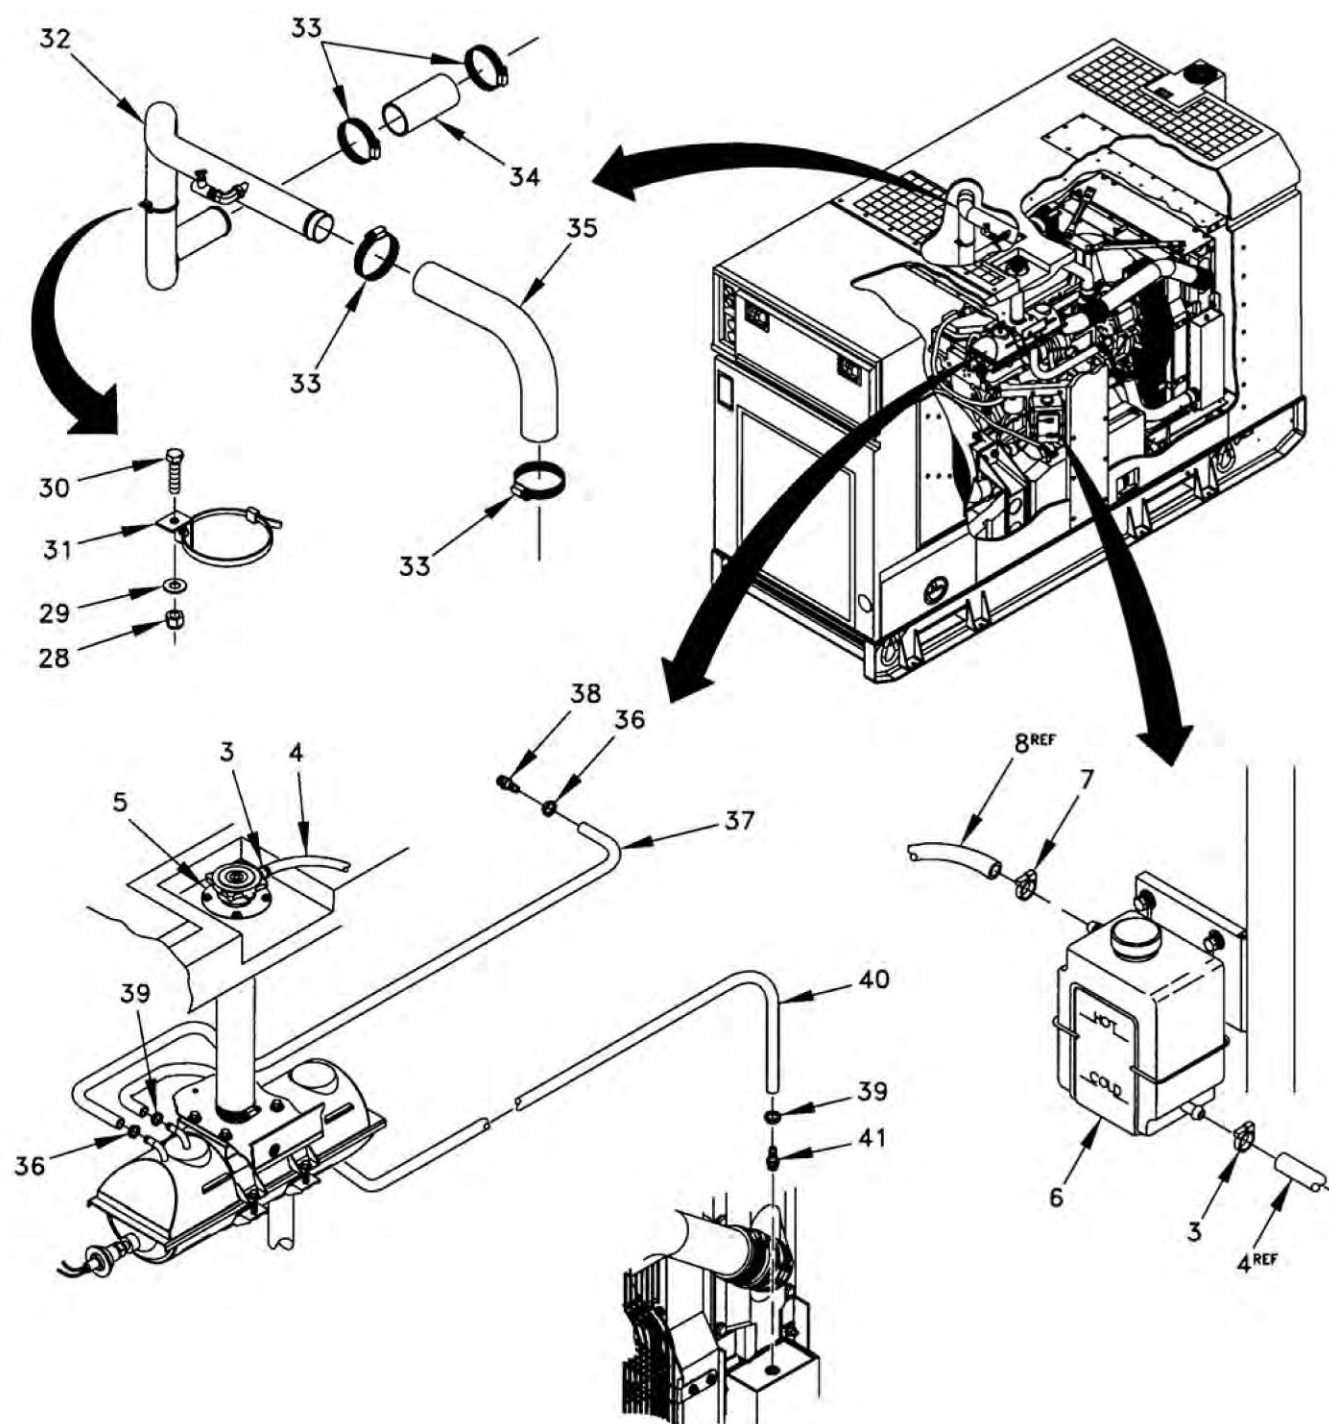

Figure 1. Coolant Hose Assemblies (Sheet 2 of 2).
12. Remove two hose clamps (Figure 1, Sheet 2, Item 39) and remove hose (Figure 1, Sheet 2, Item 40) from surge tank and radiator. Remove fitting (Figure 1, Sheet 2, Item 41).